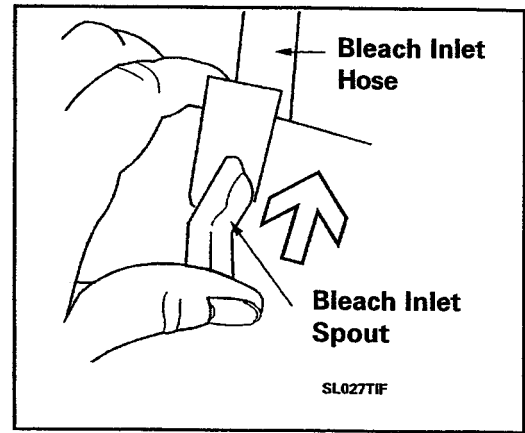

Figure 2-21
9. Tilt the plastic shroud forward and remove the fabric softener and bleach dispenser inlet hoses by sliding the spouts up (Figure 2-21).